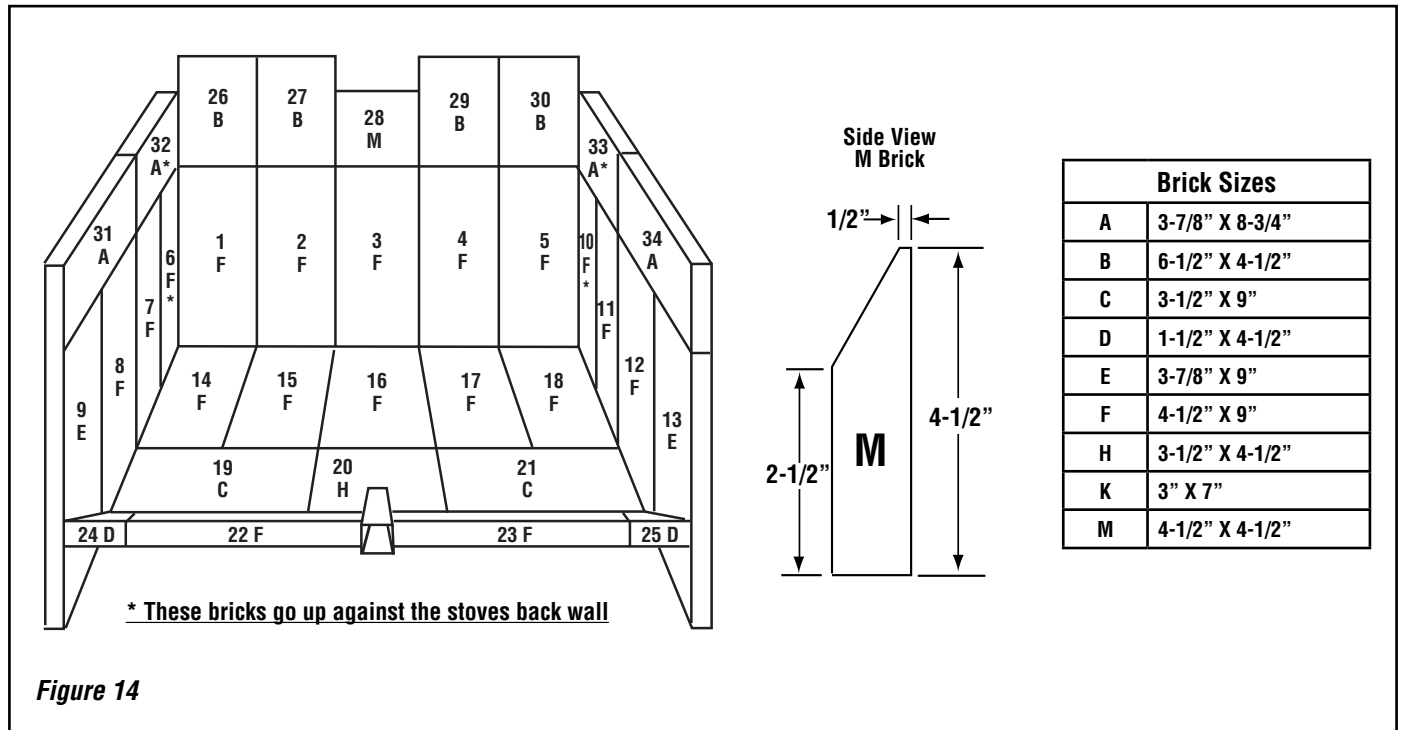

Figure 14
1. Install bricks #1-34 in the numbered sequence shown in **Figure 14** on the following page. **Note:** Bricks # 22-25 lean up against the lower air channel and butt against bricks #17-21 on the bottom of the stove.